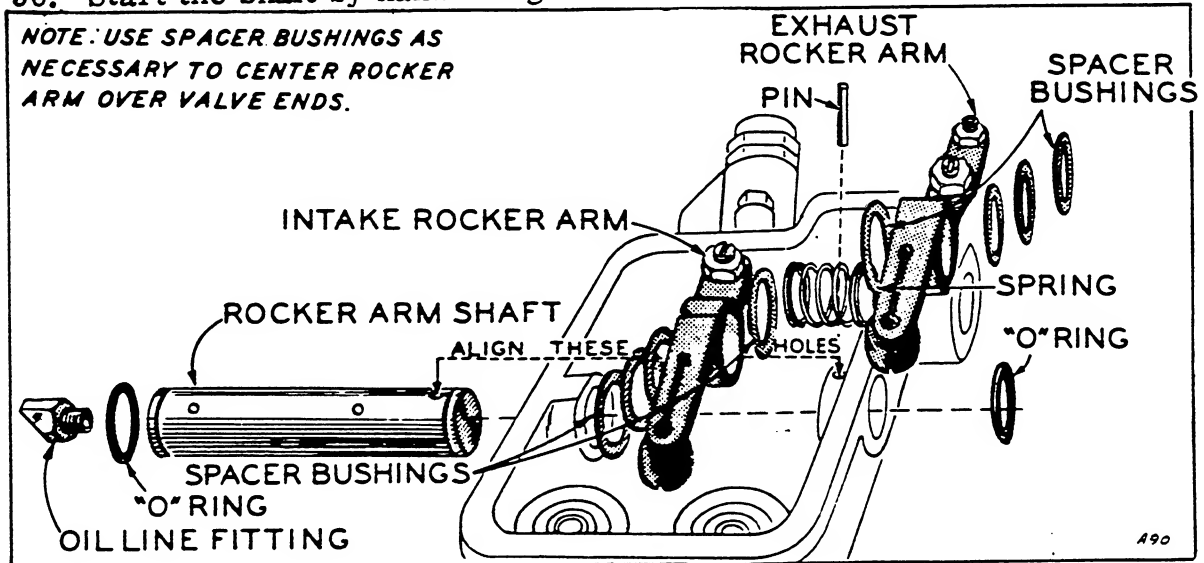

FIG. 30 - ROCKER ARM INSTALLATION
- (2) Note that there is a small hole near one end of the rocker arm shaft. There is also a small hole in the rocker arm shaft boss located near the decompression release mechanism. Insert the end of the shaft having the drilled hole into the boss at the generator end of the engine with the hole in the shaft aligned with the hole in the opposite boss. See Fig. 30. Start the shaft by hand being sure the holes remain in alignment.